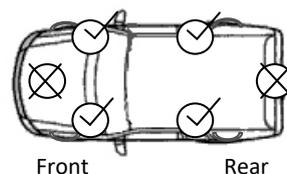

Figure 1
- Select a strong underbody location capable of supporting weight of vehicle. Never locate under fuel tanks, fragile plastic body parts or exhaust system. Avoid sharp body protrusions, brackets, bolts or edges. See figure 1 for recommended recovery locations.